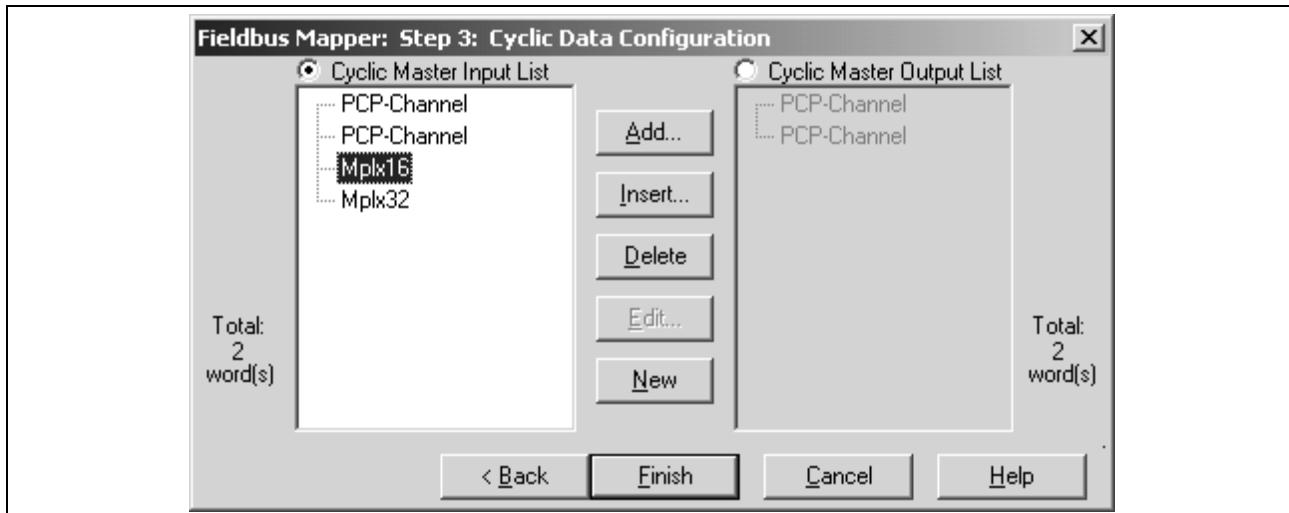

Fig. 8-13: Cyclic Data Configuration, Multiplex Containers
4. Click OK to add the Multiplex Container to the List. The screen in *Fig. 8-13* below is an example where a 16-bit Multiplex Container and a 32-Bit Multiplex Container have been added.